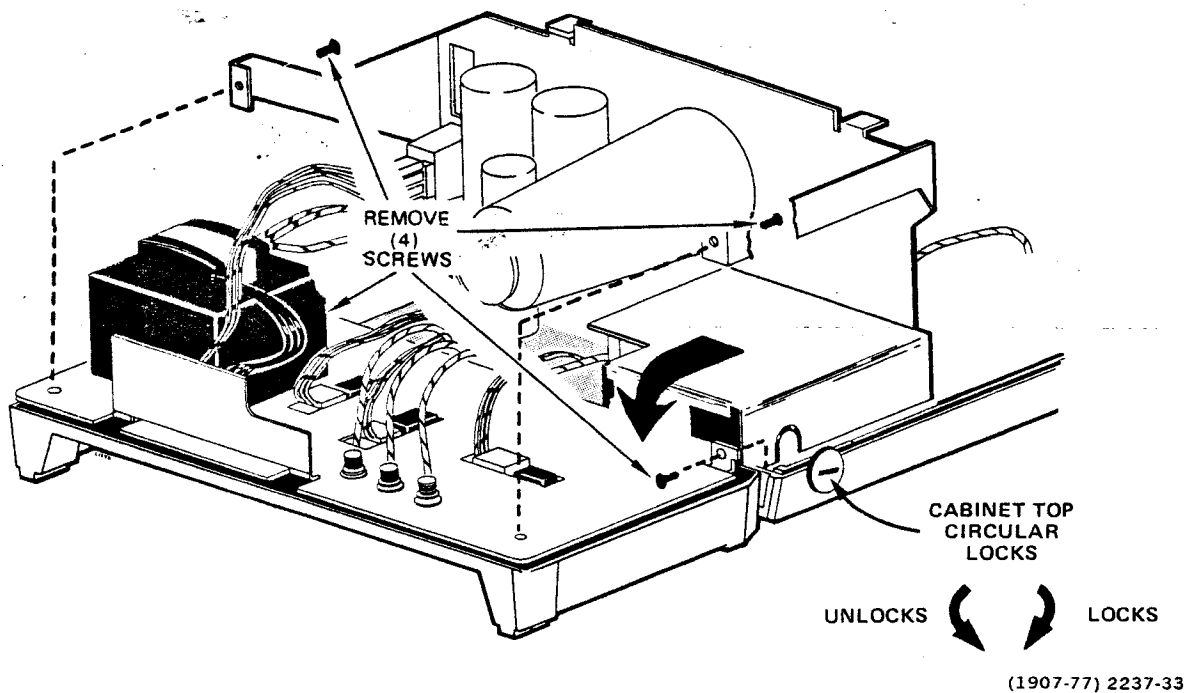

Figure 5-5. Rear panel removal.
(1) Using a coin or large bladed screwdriver, rotate the three circular locks on each side of the cabinet (see Figure 5-5) counterclockwise until the slots are vertical.
(2) Lift the cabinet top straight up.
(3) Remove the nine screws holding the EMI Shield (6 on left side near the front, 2 on the top at the rear, and 1 on the top right at the front).
(4) Lift the EMI Shield straight up.
(5) Replace the EMI Shield and cabinet top in reverse order.
(3) Bend grooved part of holder so that connector is inserted into groove.
(4) When plugging connector holders on to board pins, be sure to match triangle mark on holder with triangle mark on circuit board.
**c. Rear Panel Assembly Removal and Replacement (Figure 5-5).**
(1) Remove the cabinet top.
(2) Unplug the power cord.
(3) Unplug the coaxial connector end at the +A GATE OUT (white wire with yellow trace) and CH 2 OUT (white wire with brown trace) connectors located on the A8 Sweep and A5 Vertical boards, respectively.
(4) Remove the four screws on the inside corners of the rear subpanel.
(5) While carefully pulling the top of the rear panel away from the mounting brackets lift the bottom up and out of the groove in the cabinet bottom. Then lay the rear panel on its back and disconnect the attached wires and cables.
(6) Replace the rear panel in the reverse order. Reconnect the wires and cables. Then hold the panel vertical and set it into the groove in the cabinet bottom. Align the screw holes and install the four corner screws. If the rear panel wires and cables were not tagged when removed, the following may be useful.